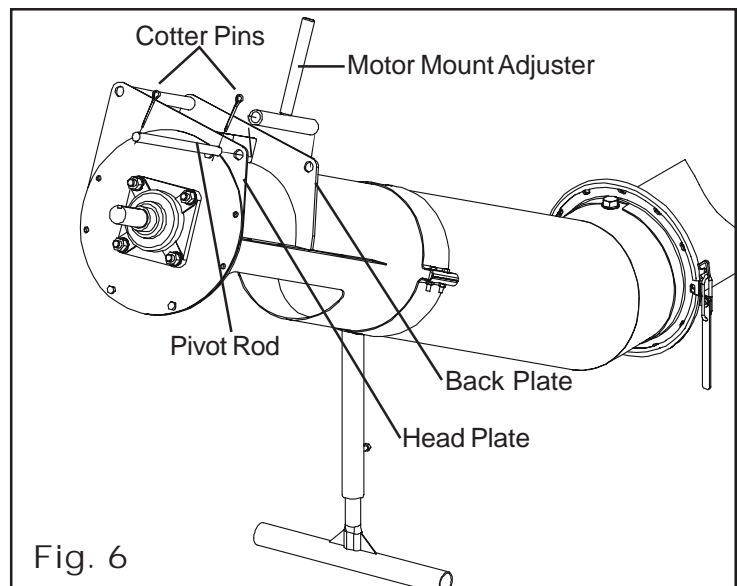

Fig. 6
- B. Insert Pivot Rod through the Tube plates and Motor Mount Adjuster. Secure in place with two (2) 3/16" x 2" cotter pins. (See Figure 6)